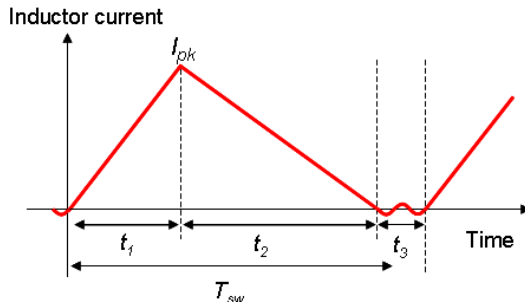

Figure 5. Inductor Current in DCM
The current waveform of the inductor (L) during one switching period ( $T_{sw}$ ) is portrayed by Figure 5.